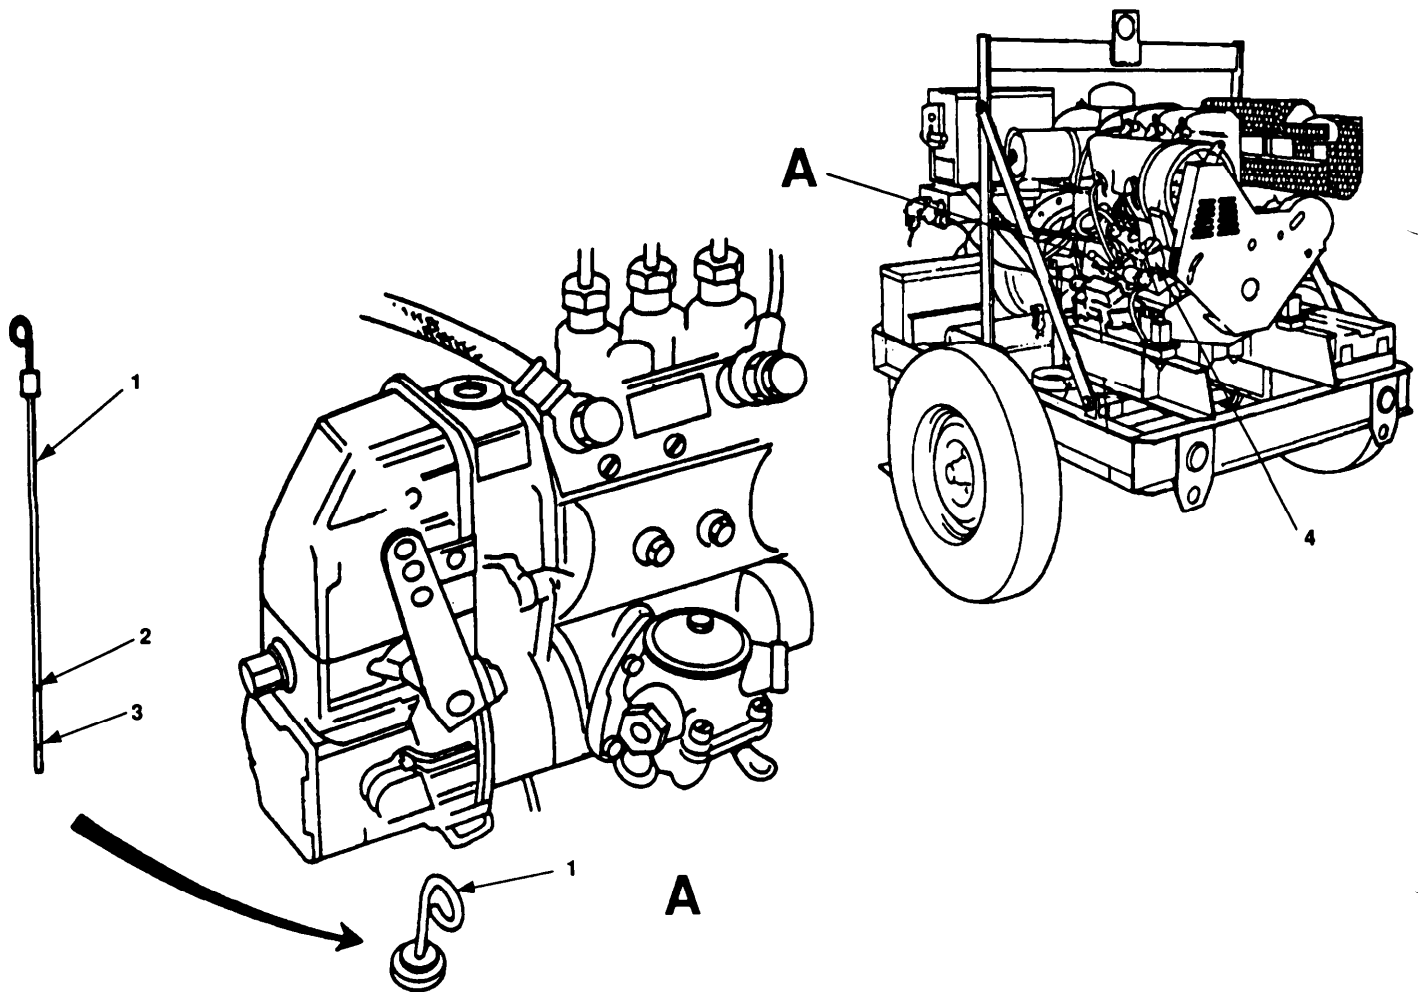

Figure 3-1. Checking Engine Oil Level.
- a. Pull out dipstick (figure 3-1, 1), and wipe it clean with a rag.
- b. Replace dipstick (1) by pushing it in as far as it will go; then, withdraw it again.
- c. Check oil film left on dipstick. It should extend to upper mark (2).
- d. If level is below upper mark (2) or only reaches to lower level (3), refer to LO 10-4320-343-12 and fill to top mark (1).